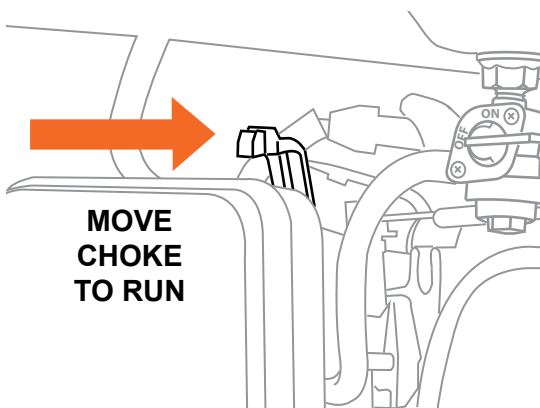

Figure 8
6. After the engine warms up and starts running normally, move the choke lever to the RUN position (see Figure 8).